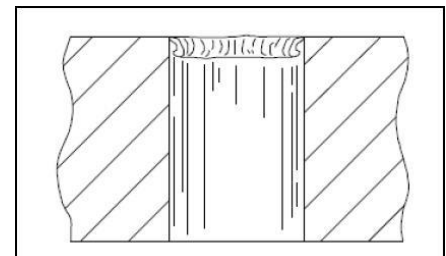

Figure 7 Rolled Burr
e. Rolled Burr (see Figure 7):